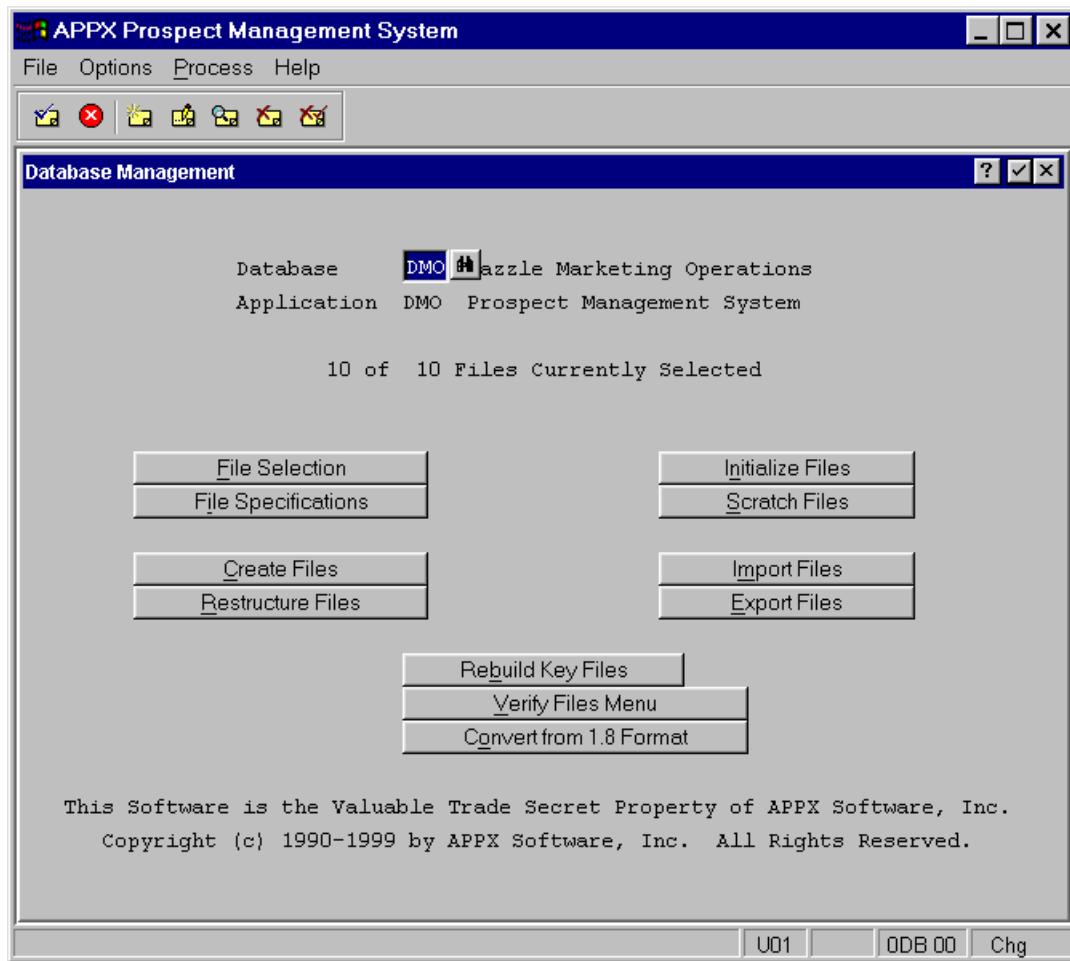

Figure E1.18 – Database Management Screen After Selecting Files
- Press **ENTER** to proceed. APPX will automatically select all of the files in the DMO application as shown in *Figure E1.18* below.